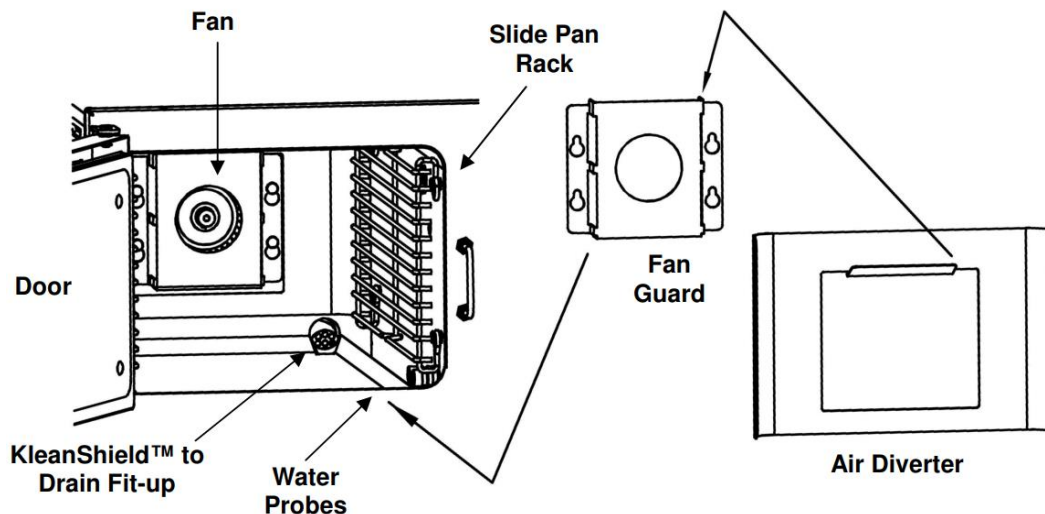

Figure 5-2
2. Inspect the door gasket assembly, water level sensors, KleanShield™, drain screen, fan guard, air diverter, and slide racks for proper installation and cleanliness. See Figure 5-2.